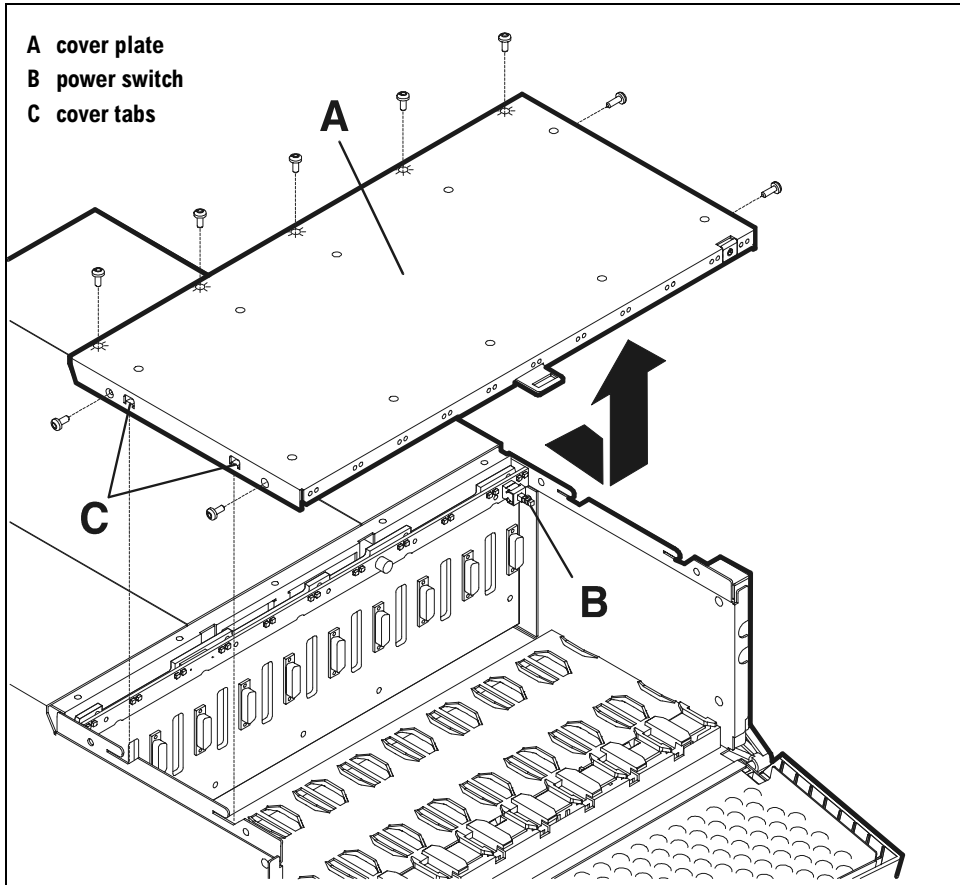

Figure 48 Top Cover Assembly
3. Remove the nine Torx T10 screws from the back and side edges of the cover plate (A in Figure 48). Screws are marked by a star pattern in the sheet metal.
5. When you are ready to replace the cover, set the cover on the chassis so that the tabs (C in Figure 48) settle into the slots in the upper edge of the chassis.